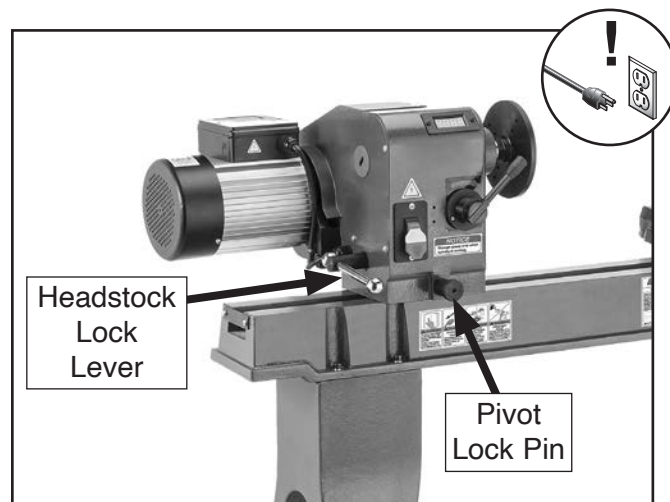
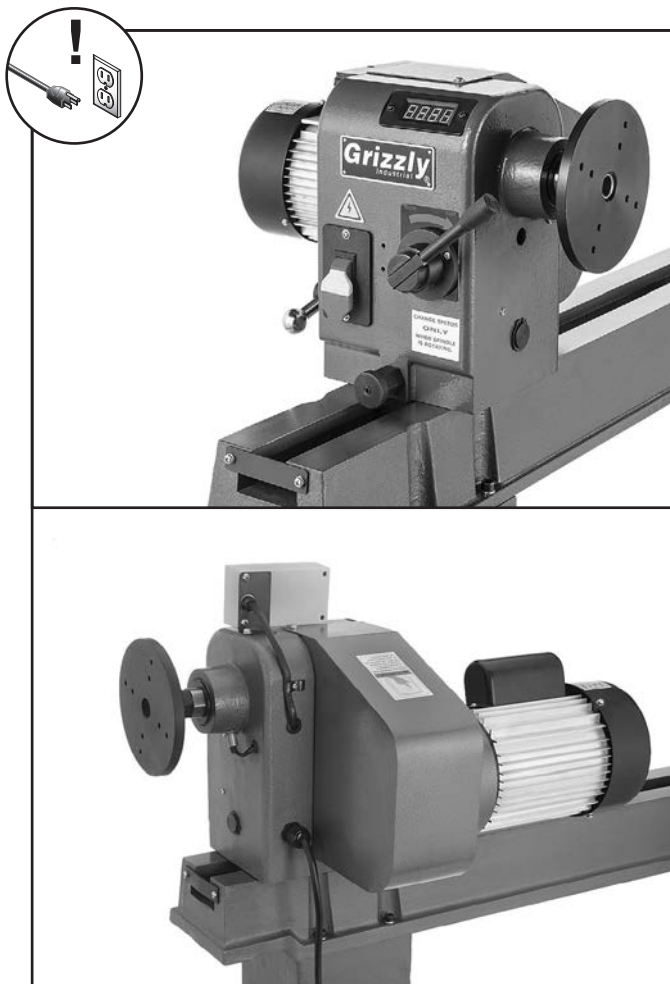

Figure 15. Location of headstock lock lever and pivot lock pin.
Figure 16. Examples of headstock at 90° and 180°.
2. Loosen headstock lock lever (see **Figure 15**).
3. Pull pivot lock pin out (see **Figure 15** on **Page 21**) and pivot headstock clockwise 60°, 90°, 120°, or 180° (see **Figure 16**).